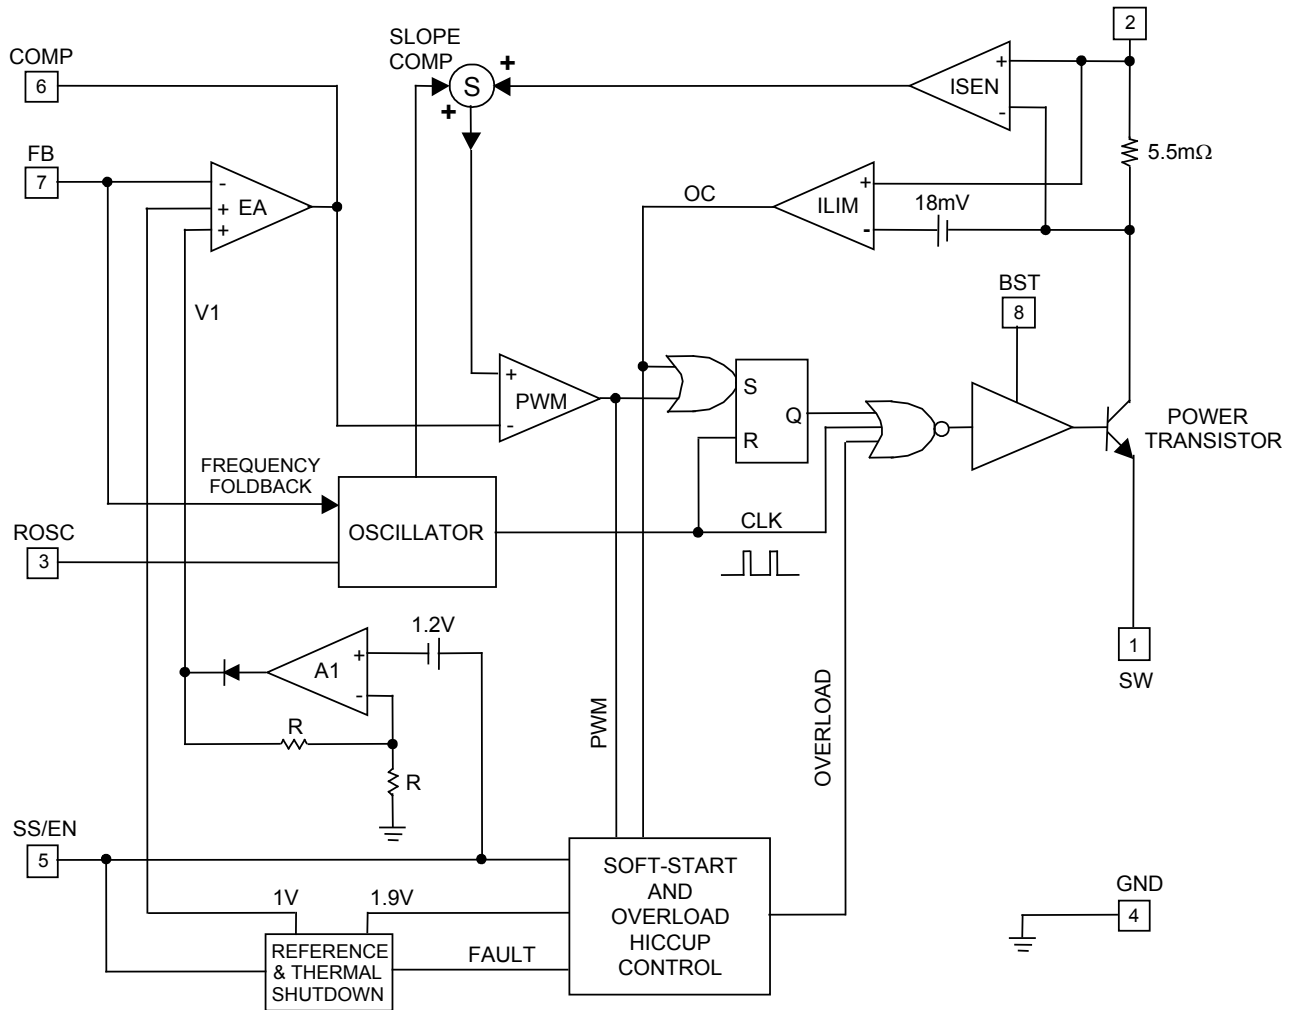

Figure 2 — SC4524C Block Diagram
As shown in Figure 2, the switch collector current is sensed with an integrated 5.5mΩ sense resistor. The sensed current is summed with a slope-compensating ramp before it is compared with the transconductance error amplifier (EA) output. The PWM comparator trip point determines the switch turn-on pulse width. The current-limit comparator ILIM turns off the power switch when the sensed signal exceeds the 18mV current-limit threshold.
The error amplifier EA in Figure 2 has two non-inverting inputs. The non-inverting input with the lower voltage predominates. One of the non-inverting inputs is biased to a precision 1V reference and the other non-inverting input is tied to the output of the amplifier  $A_1$ . Amplifier  $A_1$  produces an output  $V_1 = 2(V_{SS/EN} - 1.2V)$ .  $V_1$  is zero and COMP is forced low when  $V_{SS/EN}$  is below 1.2V. During start up, the effective non-inverting input of EA stays at zero until the soft-start capacitor is charged above 1.2V. Once  $V_{SS/EN}$  exceeds 1.2V, COMP is released. The regulator starts to switch when  $V_{COMP}$  rises above 0.4V. If the soft-start interval is made sufficiently long, then the FB voltage (hence the output voltage) will track  $V_1$  during start up.  $V_{SS/EN}$  must be at least 1.83V for the output to achieve regulation. Proper soft-start prevents output overshoot. Current drawn from the input supply is also well controlled.
becomes armed. As the load draws more current from the regulator, the current-limit comparator ILIM (Figure 2) will eventually limit the switch current on a cycle-by-cycle basis. The over-current signal OC goes high, setting the latch  $B_3$ . The soft-start capacitor is discharged with  $(I_D - I_C)$  (Figure 3). If the inductor current falls below the current limit and the PWM comparator instead turns off the switch, then latch  $B_3$  will be reset and  $I_C$  will recharge the soft-start capacitor. If over-current condition persists or OC becomes asserted more often than PWM over a period of time, then the soft-start capacitor will be discharged below 1.9V. At this juncture, comparator  $B_4$  sets the overload latch  $B_2$ . The soft-start capacitor will be continuously discharged with  $(I_D - I_C)$ . The COMP pin is immediately pulled to ground. The switching regulator is shut off until the soft-start capacitor is discharged below 1.0V. At this moment, the overload latch is reset. The soft-start capacitor is recharged and the converter again undergoes soft-start. The regulator will go through soft-start, overload shutdown and restart until it is no longer overloaded.
The PWM latch in Figure 2 is reset every cycle by the clock. The clock also turns off the power transistor to refresh the bootstrap capacitor. This minimum off time limits the attainable duty cycle of the regulator at a given switching frequency. The measured minimum off time is 100ns typically. If the required duty cycle is higher than the attainable maximum, then the output voltage will not be able to reach its set value in continuous-conduction mode.